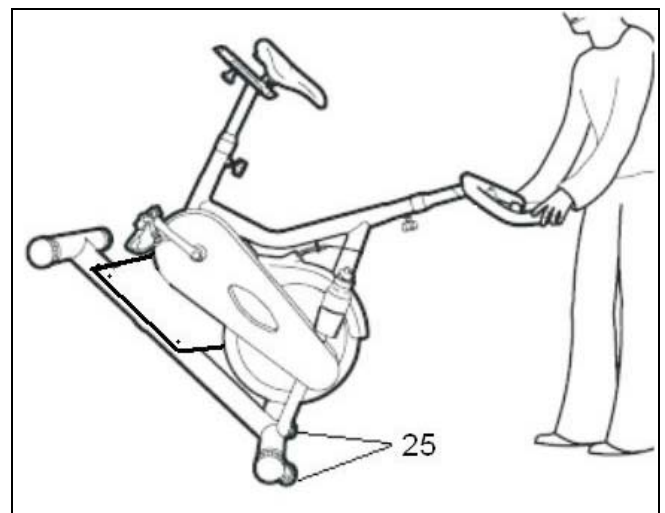

Fig.14
Moving & Storage: the unit is equipped with wheels on the front stabilizer to make it easier to move. Lift the rear of the unit up to put weight on the wheels (25) then push to move (fig. 14). Store the bike in a cool, dry place not subject to changes in temperature.